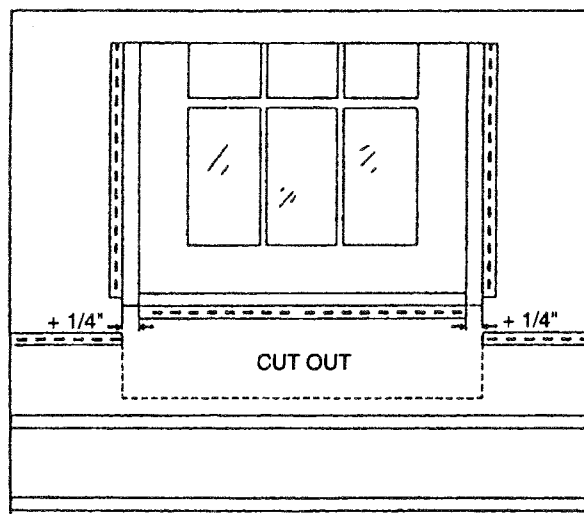

FIG. 9
A. Make a cut-out in the course of siding that fits under the window sill. Hold the siding up to the window and mark the window width. Add an extra 1/4" on each side of the section to be cut out. (See Figure 9) For best results, never overlap panels above or below a window.